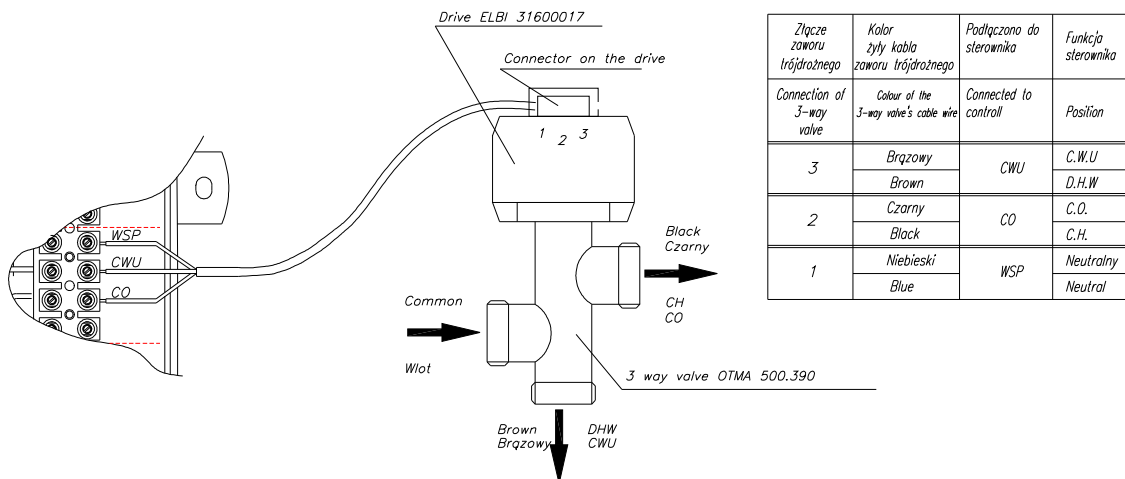

Fig.3.10.1 Electrical connection of the three way valve type 500.390
- Connect the three way valve wire in accordance with the above mentioned information label to the terminals marked "CWU, CO, WSP." (see Figure 3.10.1)